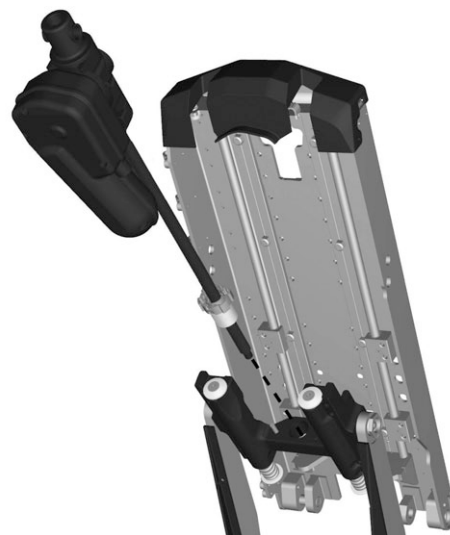

Figure 124. Remove the actuator from the sleigh by unscrewing its nut.
8. Remove the actuator from the sleigh by unscrewing its nut. See fig. 124.